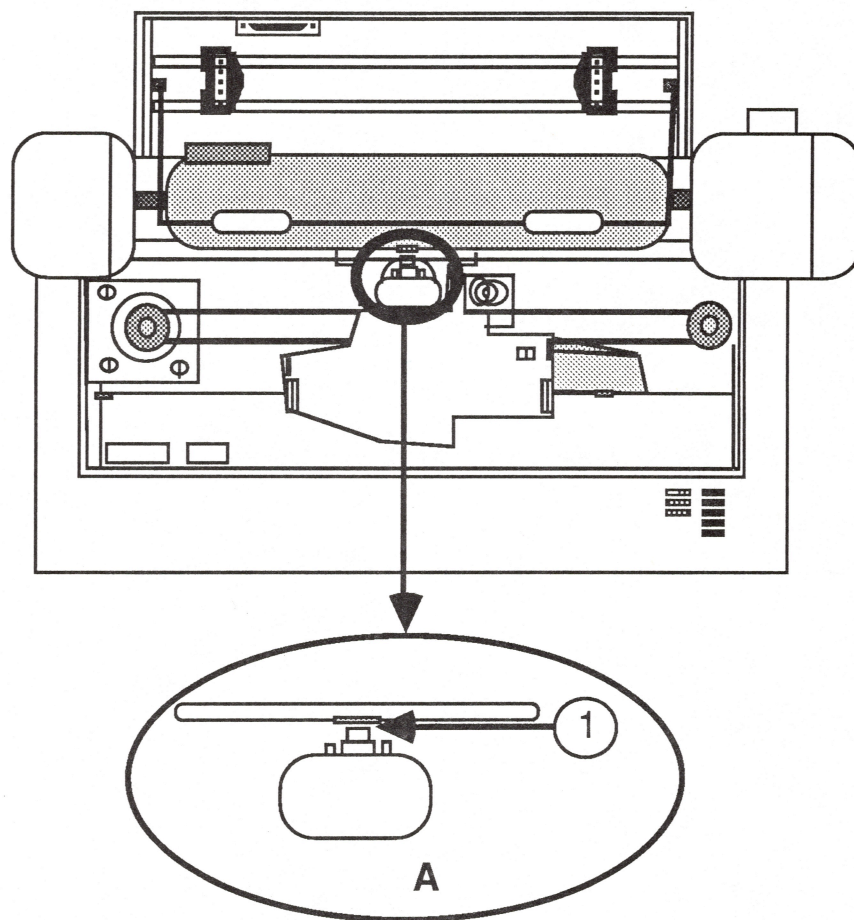

FIGURE 42
4. Using a feeler gauge, measure the gap between the front of the printhead and the metal shield on the paper guide (see Figure 42, Detail A, #1). Record it.